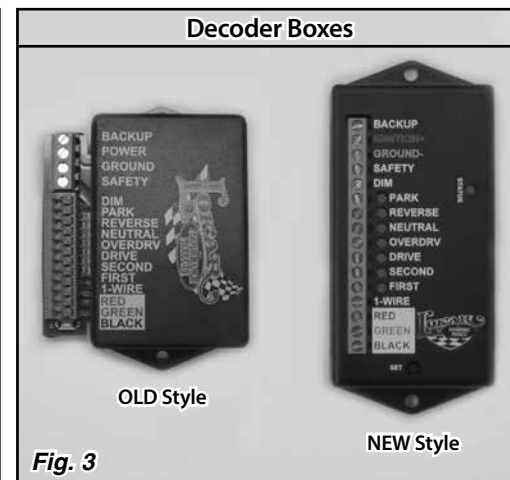

Fig. 3
**NOTE:** There are two styles of decoder boxes: **OLD** and **NEW**. See Fig. 3 to determine which type you have. If you have the **OLD** style decoder box, these are **NOT** the correct instructions. You need instructions # INS0033, which can be found on the Lokar website or can be emailed to you by contacting Lokar Technical Support.